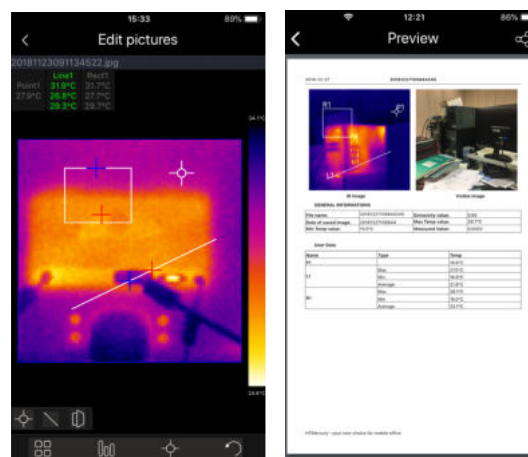

Fig. 21: Applications of the APP HTMercury
1. Press key **ESC**/ to activate Manual mode. The temperature values stay fixed within a frame with grey background and symbol appears on the display (see Fig.21 – left side).
2. Press key **▲** to set the higher temperature value. The following screen (see Fig.21 – middle) appears on the display.
4. Select virtual key to delete the value, press key **T** to define each value and select the virtual key **“Enter”** to confirm the value (e.g.: 35.0°C in Fig. 21 – middle) and quit setting section.
6. The display of the object in Manual mode is shown in Fig. 21 – right side.